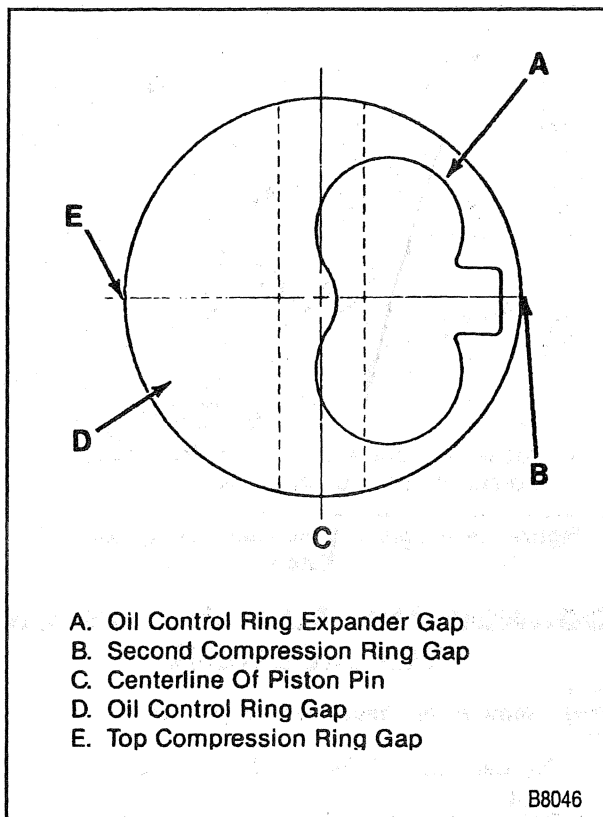

Figure 29—Ring Gap Location
- B. Locate the piston ring end gaps as shown in figure 29. Lubricate the piston and rings with engine oil.